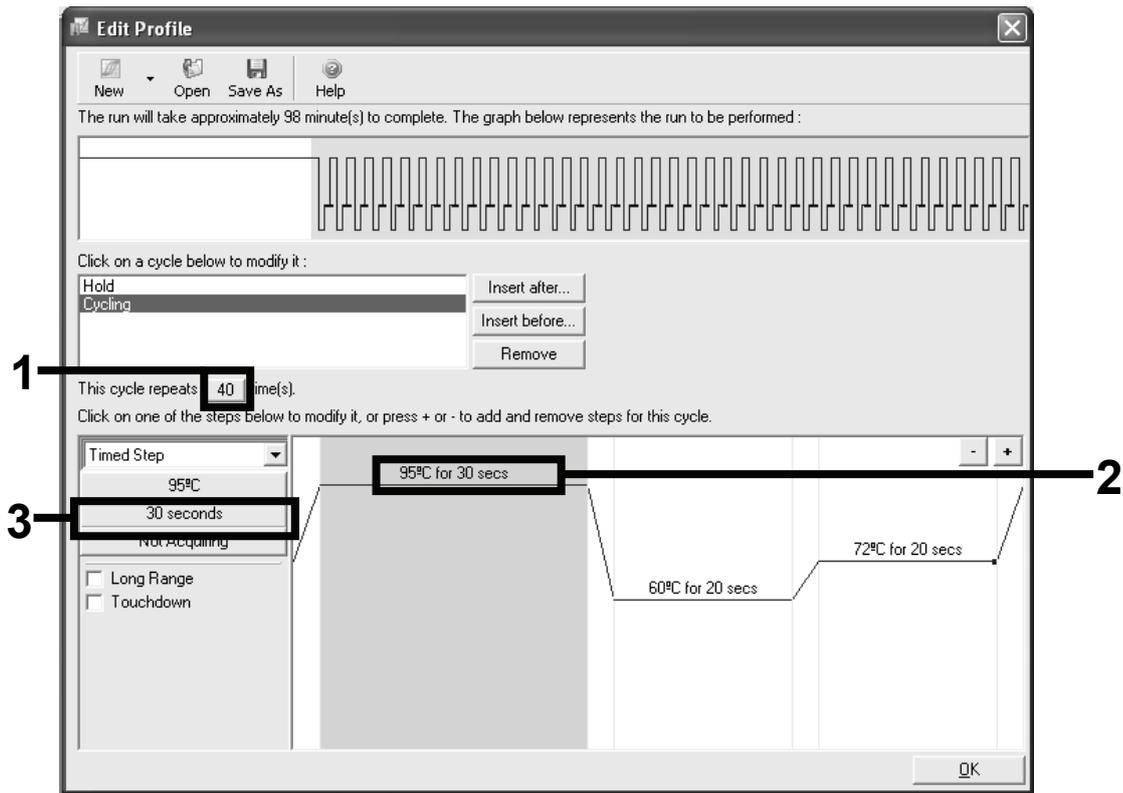

Figure 6. Cycling step at 95°C.
Amplification of the DNA	Figures 6, 7
13. Change the number of cycle repeats to 40. Select the first step, and set to 95°C for 30 seconds (Figure 6).